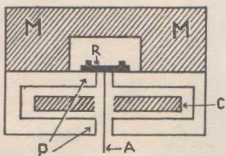
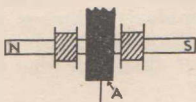

FIG. 2. The "4-pole differential" pick-up.
FIG. 1. The "single acting" type pick-up.
In the single acting type (fig. 1) the armature (A) is mounted upon one side only of the pole pieces NS. This type is not very efficient. The majority of good pick-ups use the 4-pole principle (fig. 2). In this system the armature (A) consists of a needle holder mounted on a reed which passes between the pole pieces P of the magnet system. Coil C is wound on a former through which the armature passes. The ends of the winding are taken to the terminals of the pick-up, rubber damping cushions R being placed at each side of the reed, to prevent it from sticking to the pole pieces. The bar magnet M magnetises the pole pieces. A fluctuating voltage is then generated in the pick-up as shown in fig. 3.